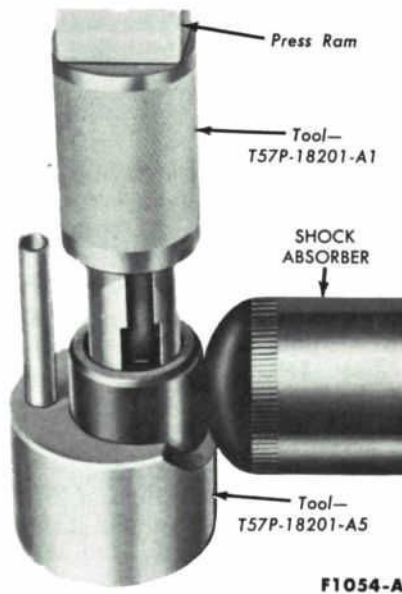

FIG. 95—Front Shock Absorber Bushing Removal
2. If the shock absorber is serviceable and the bushing requires replacing, remove the old bushing from the lower end of the shock absorber (Fig. 95). Apply RUGLYDE or a comparable lubricant to the replacement bushing,